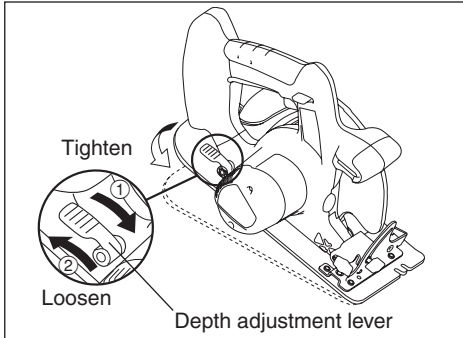

Fig. 5
- Loosen the depth adjustment lever by pushing it and adjust the cutting depth.(See Fig.5)